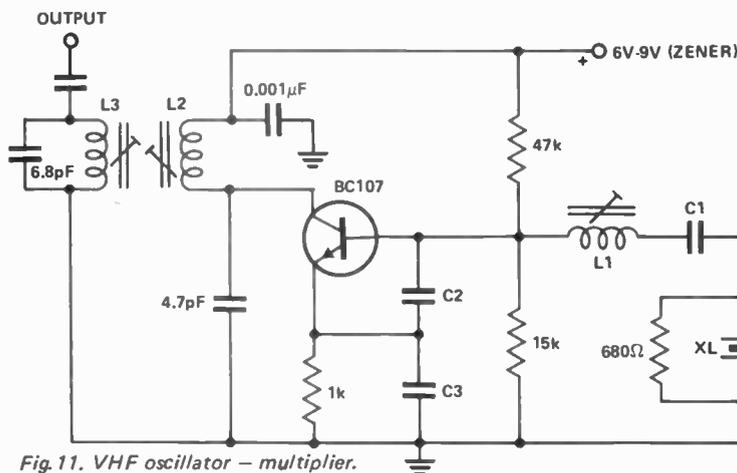

Fig. 11. VHF oscillator - multiplier.
The circuit in Fig.11 is a modification of the 'Impedance Inverting' overtone oscillator discussed by Rankin (4), who also describes a similar circuit (albeit outdated - using an OC171 - even Dick Smith no longer stocks them!) Normally, with the impedance inverting circuit, the collector is either untuned or grounded for RF. The collector can be tuned to twice or three times the crystal frequency. To reduce the output at the crystal frequency, a double tuned circuit is recommended. DO NOT tune the collector to the crystal frequency, otherwise the circuit will oscillate at a frequency not controlled by the crystal. It is advisable to keep the collector lead as short and direct as possible.